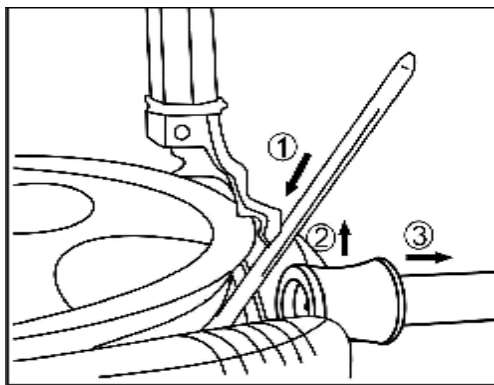

Fig.22
- I Insert the tyre lever into between the mount/demount head and the tyre bead. Lift the control lever to move the roller to its none working position (fig.22).